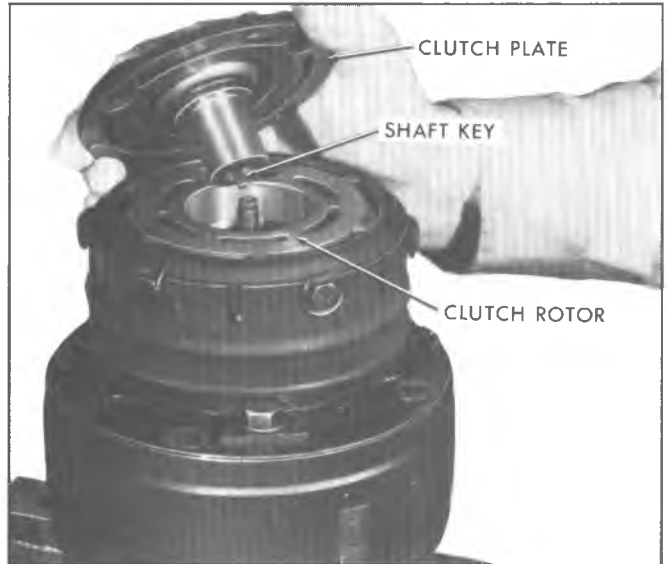

Fig. 5—Installing Shaft Key
1. Install shaft key into hub key groove (Fig. 5). Allow key to project approximately 3/16" out of keyway. Shaft key is curved slightly to provide an interference fit in shaft key groove, to permit key projection without falling out.